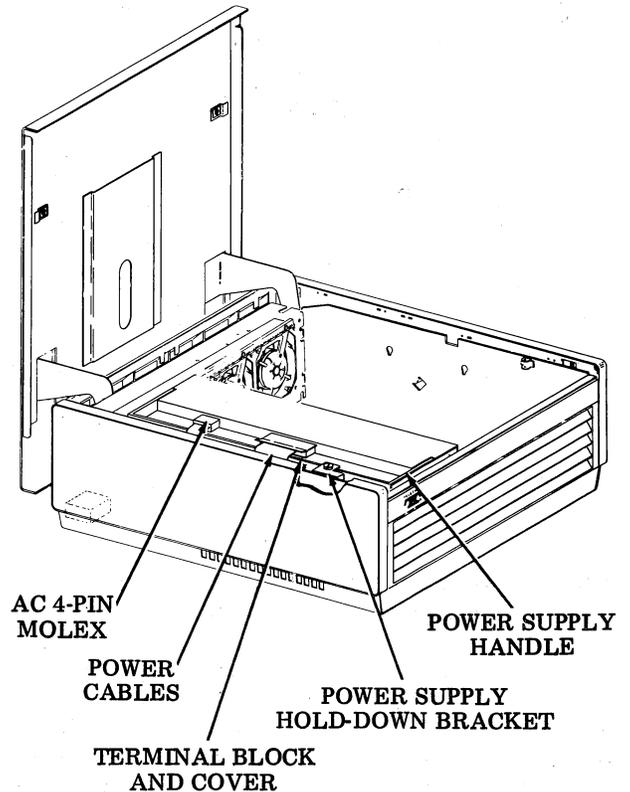

Fig. 24—Power Supply Removal
4.64 Remove the power supply by the following (Fig. 24):